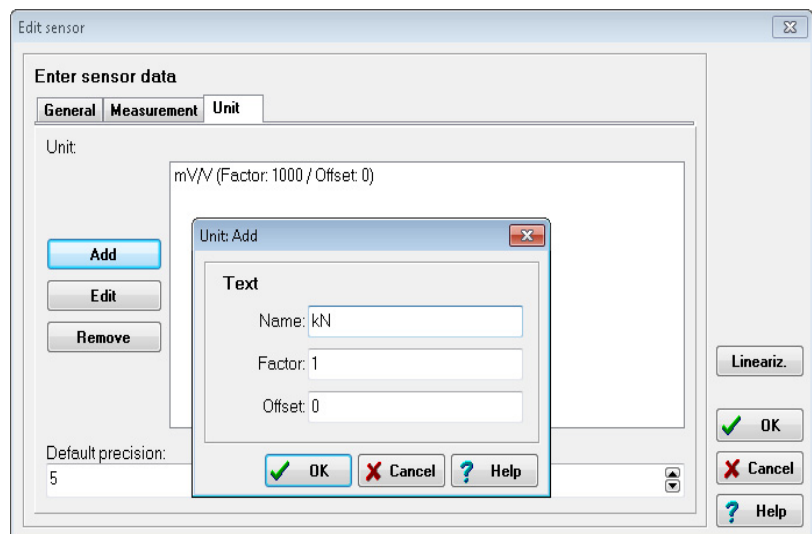

Fig. 5-6 Defining the unit for sensor scaling.
4. Click on **Edit** and the **Unit** tab to be able to define the unit measured by your sensor (Fig. 5-6).
5. Specify the required unit, e.g. **kN** (Fig. 5-6).